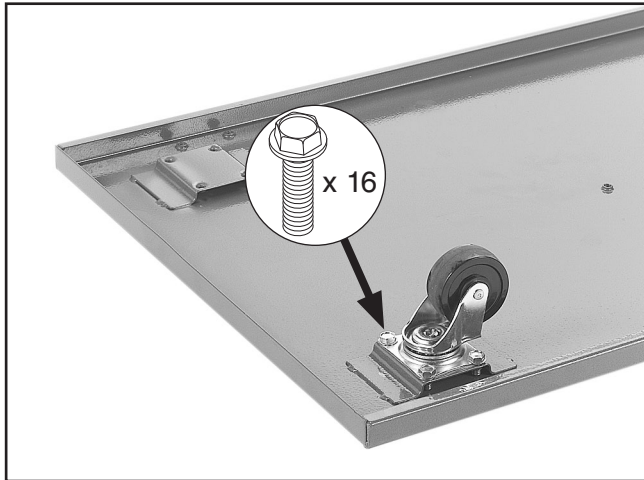

Figure 8. Caster installed onto the base.
2. Install the casters onto to the base with (16) $\frac{5}{16}$ "-18 x $\frac{1}{2}$ " flange bolts, as shown in **Figure 8**.